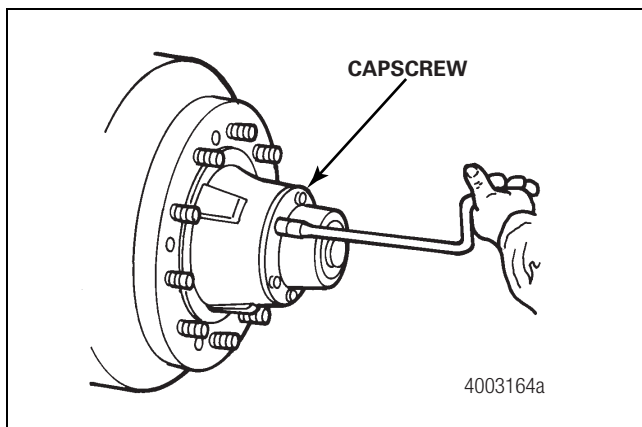

Figure 5.13
8. Install the hubcap by tightening the capscrews to 15-30 lb-ft (20-41N•m) in a criss-cross pattern. Use a new hubcap gasket. Figure 5.13. **ⓘ**